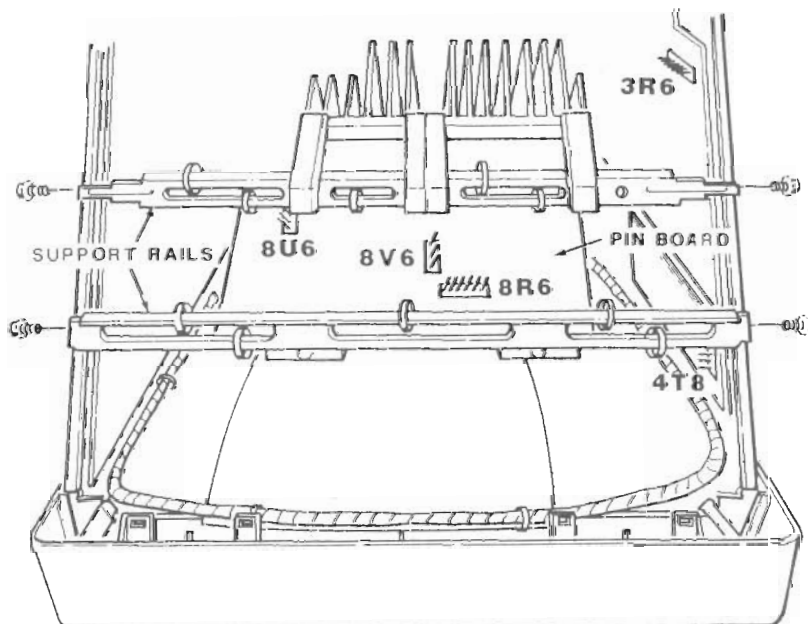

Figure 3-6. PIN Board Removal
1. Loosen the support rails. Refer to Figure 3-6 and remove the two hex screws holding each of the support rails in place.
2. Cut the cable ties indicated in Figure 3-6.